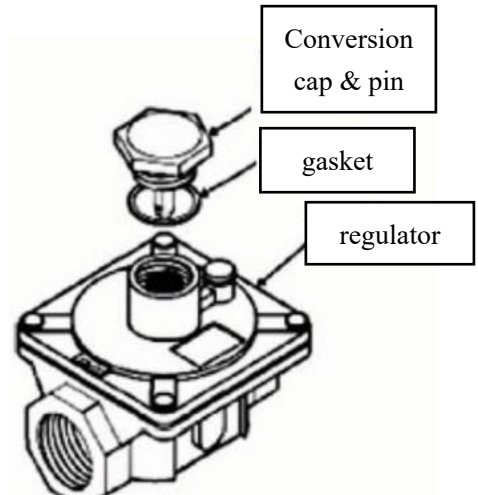

Fig.1 Gas pressure regulator
7. To operate with LPG gas, the regulator must be changed to operate at 10" WC. (see fig.1) To do this, remove the converter cap and pin from the regulator, remove the pin and invert then reinstall in the cap. Replace the cap on the regulator taking care that the gasket is in place on the cap.